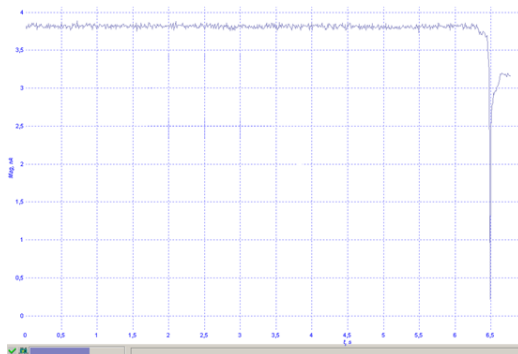

Fig. 1-10. Mag(t) function in case of a successful approach of the probe to the sample surface
- the **Mag(t)** signal trace in the oscilloscope will display a step-down of the **Mag signal** to the value of **Set Point** parameter (Fig. 1-10, Fig. 1-11);
A criterion for finishing the approach, i.e. for the contact between the probe and the sample surface, is the sudden drop of the **Mag** signal value (a nearly vertical line in Fig. 1-10).